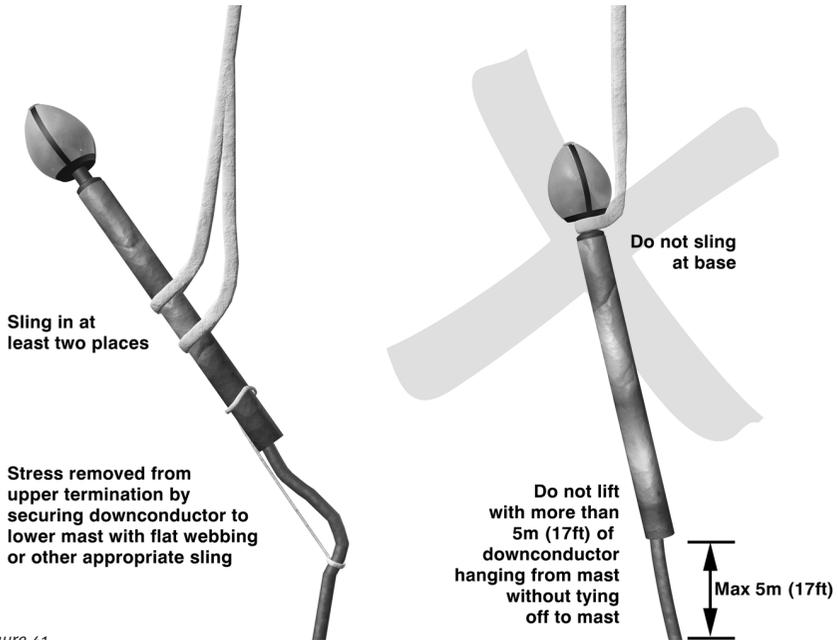

Figure 41.
- When lifting the mast, ensure that the slings or ropes cannot damage the Guardian CAT terminal, see Figure 41.